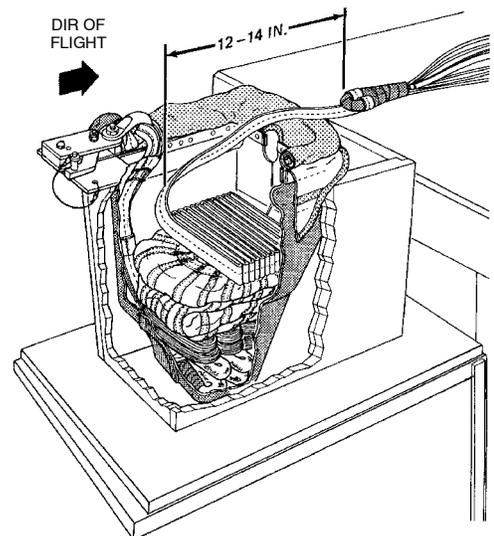

Figure 32. Pack Connecting Line on Top
f. Pack connecting line directly on top of packed canopy by standing connecting line on its edge. Route connecting line along front of container, tightly running it from side to side, working toward rear of container. Pack entire connecting line in this manner until a length of 12 to 14-in. remains (Figure 32). (QA)